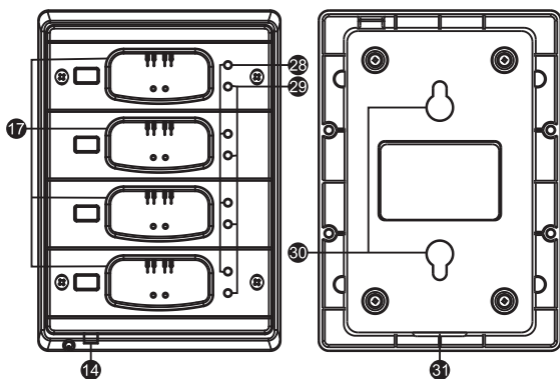

Fig. 20
5. MTG-100C-4 4-Slot Charger Case, Fig. 20: